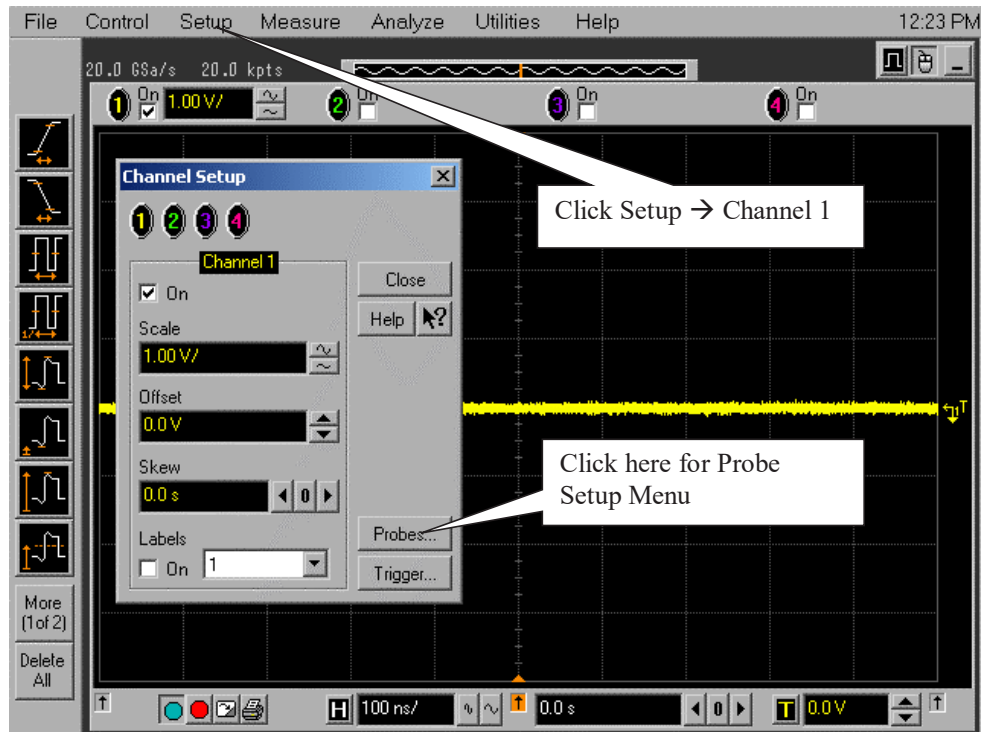

Figure 8 Channel Setup Window.
- 2 Referring to Figure 8 below, perform the following steps:
- 16 Click the Close button on the Channel Setup window (Figure 8 on page 1215) to close this window.